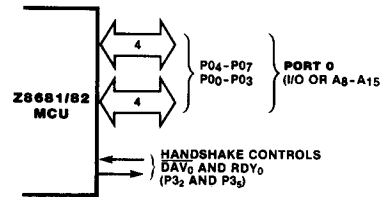

Figure 9. Port 0
**Port 0\*** can be programmed as a nibble I/O port, or as an address port for interfacing external memory (Figure 9). When used as an I/O port, Port 0 can be placed under handshake control. In this configuration, Port 3 lines P32 and P35 are used as the handshake controls  $\overline{DAV}_0$  and  $\overline{RDY}_0$ . Handshake signal assignment is dictated by the I/O direction of the upper nibble P04-P07.